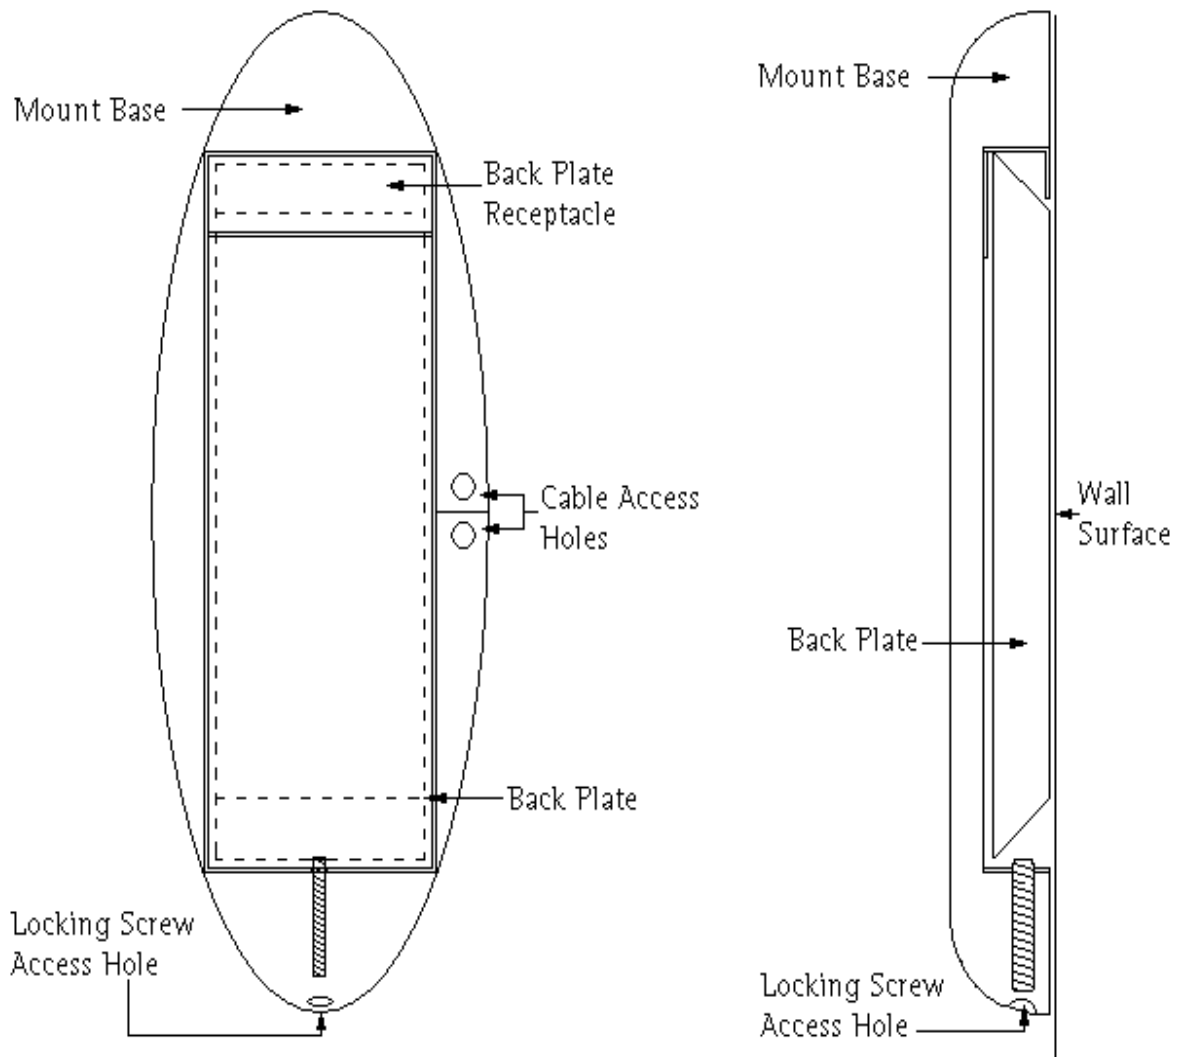

Figure 5. WB-31 Installation
1. The reverse side of the mount must be mounted to the back plate that is attached to the wall. The back of the mount contains an elongated rectangle (Figure 5). Referring to Figure 5, the back plate receptacle must be placed over the top of the back plate, so that the entire mount “hangs” on the back plate.
NOTE: In reference to Figure 5, the dash lines represent the back plate that is mounted to an existing surface.